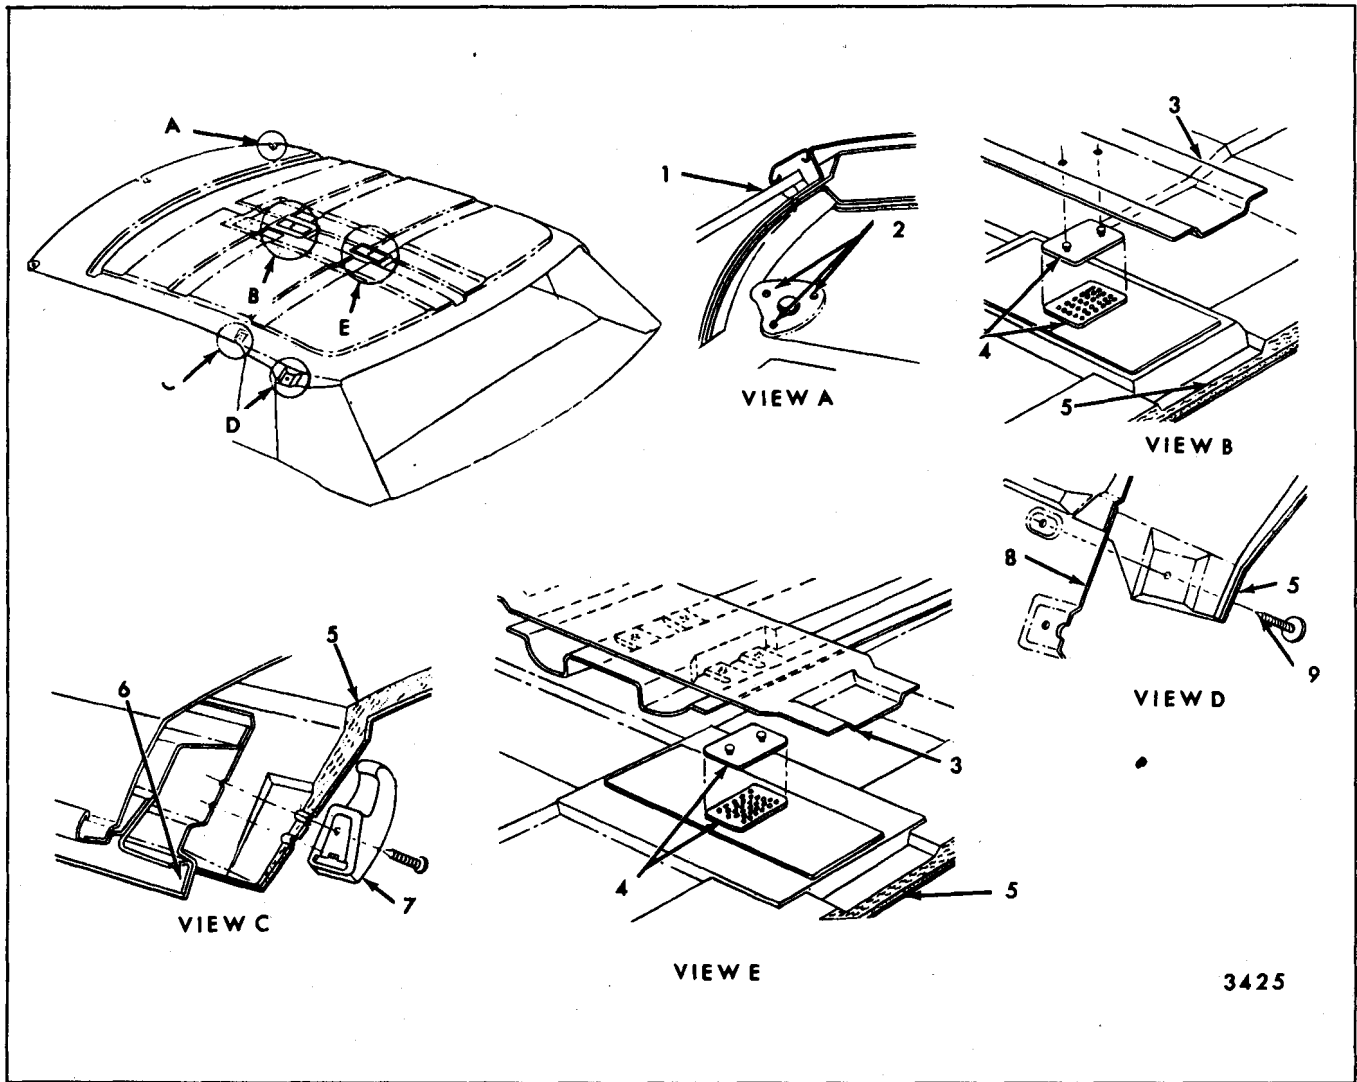

Fig. 10-7-One Piece Headlining
2. Remove the screws located in the upper rear corner of the headlining (See Fig. 10-7, View "D").
3. Disengage the snap fasteners and carefully lower headliner from roof panel (See Fig. 10-7, View "E" and "B").
- Install screws in the sail area and sunshade brackets (See Fig. 10-7, Views "A" and "D").
- Engage snap fasteners (see Fig. 10-7, View "B" and "E") by placing flat of hand on back side of snap fastener and press upward until it engages.